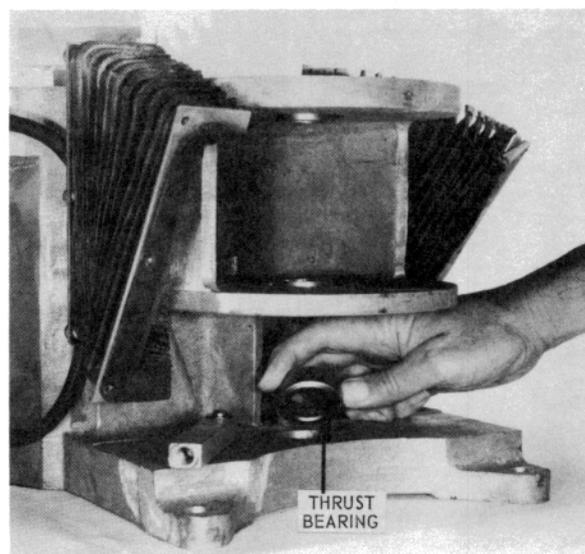

Figure 58 – Thrust Bearing Orientation when Reinstalling
- 4.1 Inspect the thrust bearing for wear or damage. Replace if necessary. If thrust bearing is contaminated, wash in clean solvent to remove old grease and contaminants. Dry with a clean lint free cloth and regrease (recommended grease – Keystone Moly 81 Light). Reinstall the bearing oriented as in Figure 58.